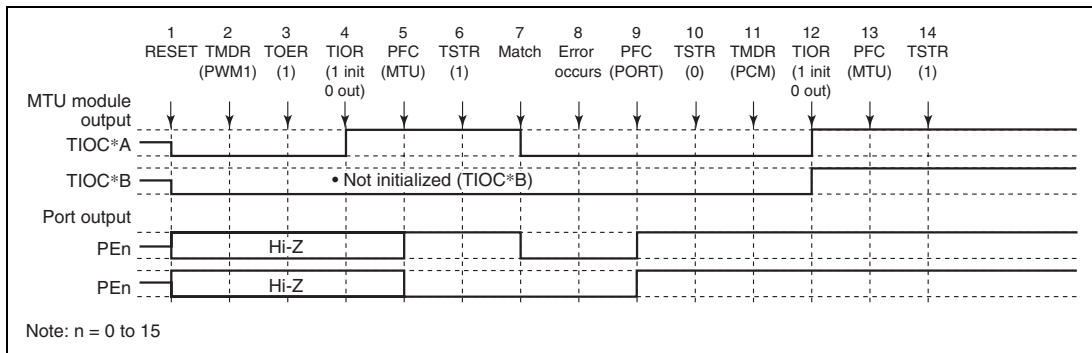

Figure 8.93 Error Occurrence in PWM Mode 1, Recovery in Phase Counting Mode
(10) Operation when Error Occurs during PWM Mode 1 Operation, and Operation is Restarted in Phase Counting Mode: Figure 8.93 shows an explanatory diagram of the case where an error occurs in PWM mode 1 and operation is restarted in phase counting mode after re-setting.